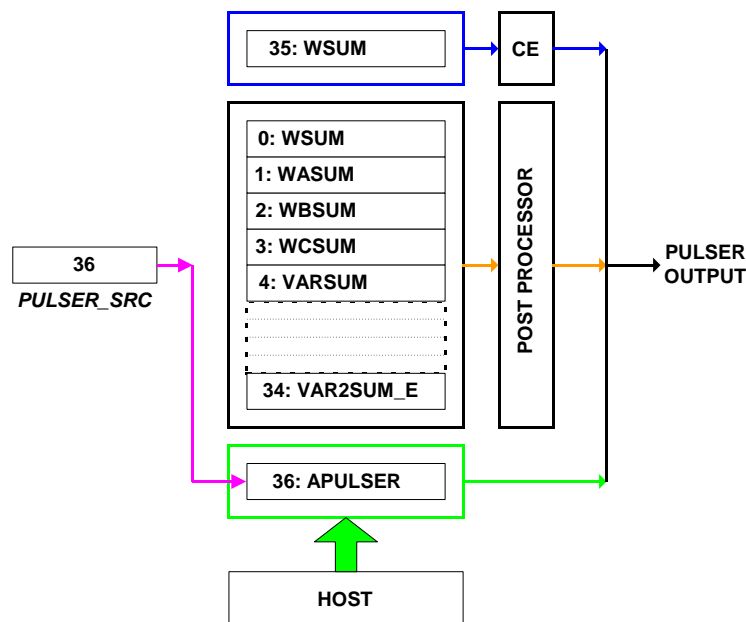

Figure 14: Pulse Generation via *APULSER* Selected in the *PULSER_SRC* Register
Figure 14 shows the registers that control the PULSEW, PULSER, PULSE3 and PULSE4 output pins if the corresponding *PULSE_SRC* register contains the decimal value 36. This figure uses the *PULSER_SRC* 8-bit portion of the *PULSE_SRC* register as an example: The internal pulse generation (CE) and the post-processor pulse generation are deselected, and the *APULSER* register acts as the pulse generation source. In this setting (external pulse generation), the host is responsible for updating the data in the *APULSER* register.